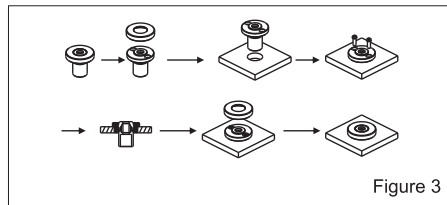

Figure 3
1. Remove the fixture's fixing assembly. Unscrew the end cap from the assembly, pass the assembly through the installation hole, secure it to the mounting surface with two screws, and finally screw the end cap back into place. (Figure 3)